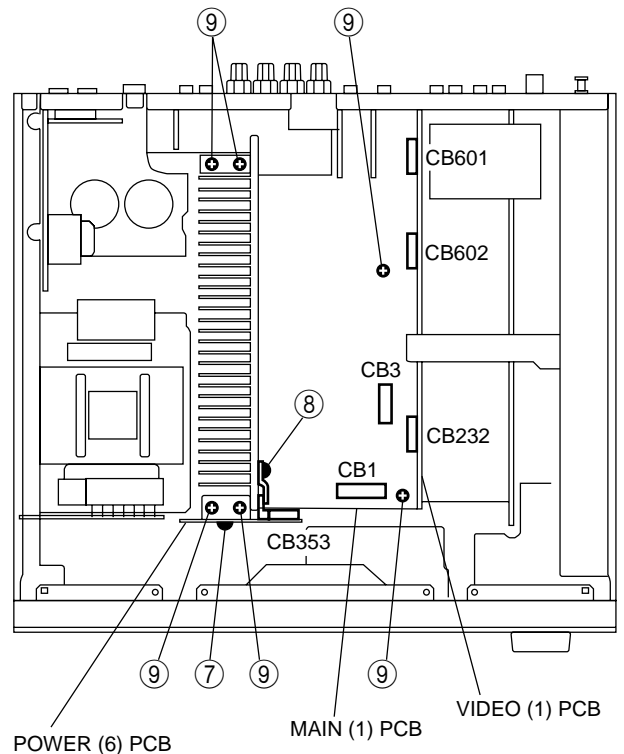

Fig. 2
- c. Disconnect 3 connectors (CB232, CB601, CB602 in Fig.2) from the VIDEO PCB (1), and disconnect the connector (CB3) from the MAIN PCB (1) in Fig. 2.
- e. Disconnect the connector (CB353) from the POWER PCB (6) in Fig. 2.
- f. Remove the plastic rivet (⑦), and the POWER PCB (6) can be removed upward from the heat sink.
- g. Disconnect the connector (CB1 in Fig. 2) from the MAIN PCB (1).
- h. Remove 2 screws (⑧) in Fig. 2, and the support Transistor can be removed.
- i. Remove 6 screws (⑨) in Fig. 2.